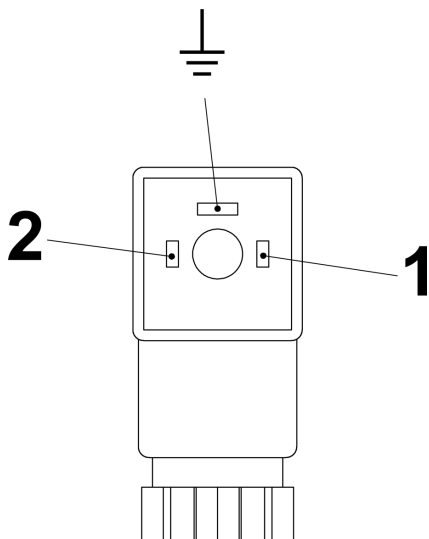
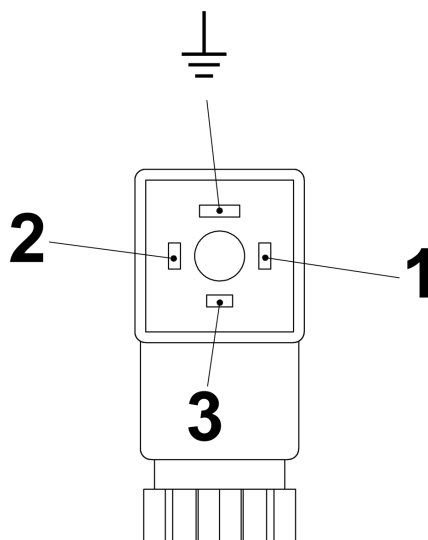

Fig. 24: Pin assignment, plug socket, Normally Open Contact (Form 15x50)
Fig. 25: Pin assignment, plug socket, Change-Over-Contact (Form 15x50)
- 6.** ➤ Make the connections as shown in the connecting diagram (Fig. 24 Fig. 25)